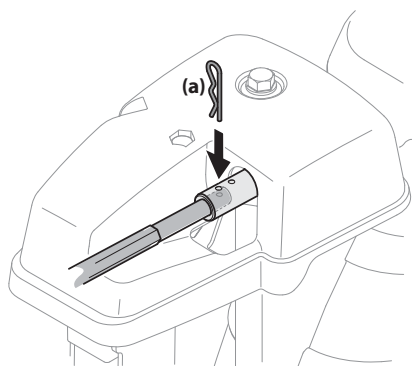

Figure 4-8
6. Pull out chute control rod until hole in it lines up with second hole in chute rotation assembly. See Figure 4-8.